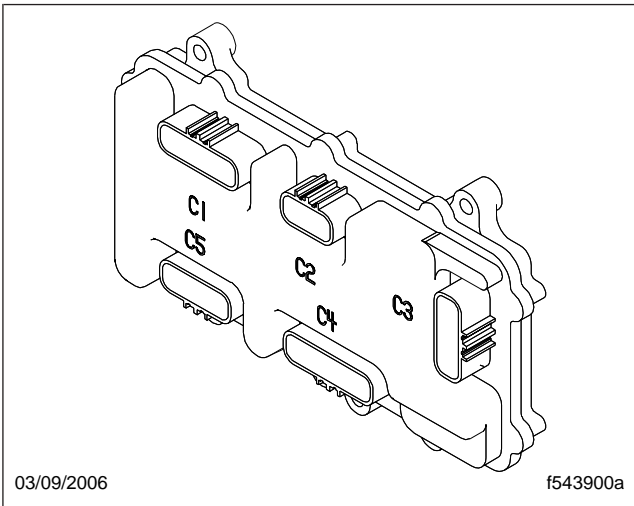

Fig. 3, Expansion Module Connectors
2. Disconnect the harnesses at the harness connectors on the Chassis Module or Expansion Module. See Fig. 2 or Fig. 3.